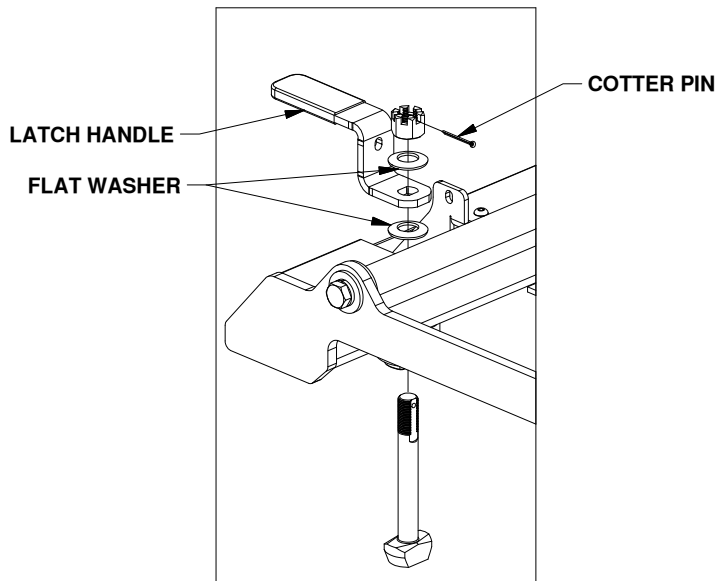

FIGURE B3: List of latch parts.
3. **Adjust the tension in the latch handle**, for parts list and visual guide refer to Figures B3 and B4.